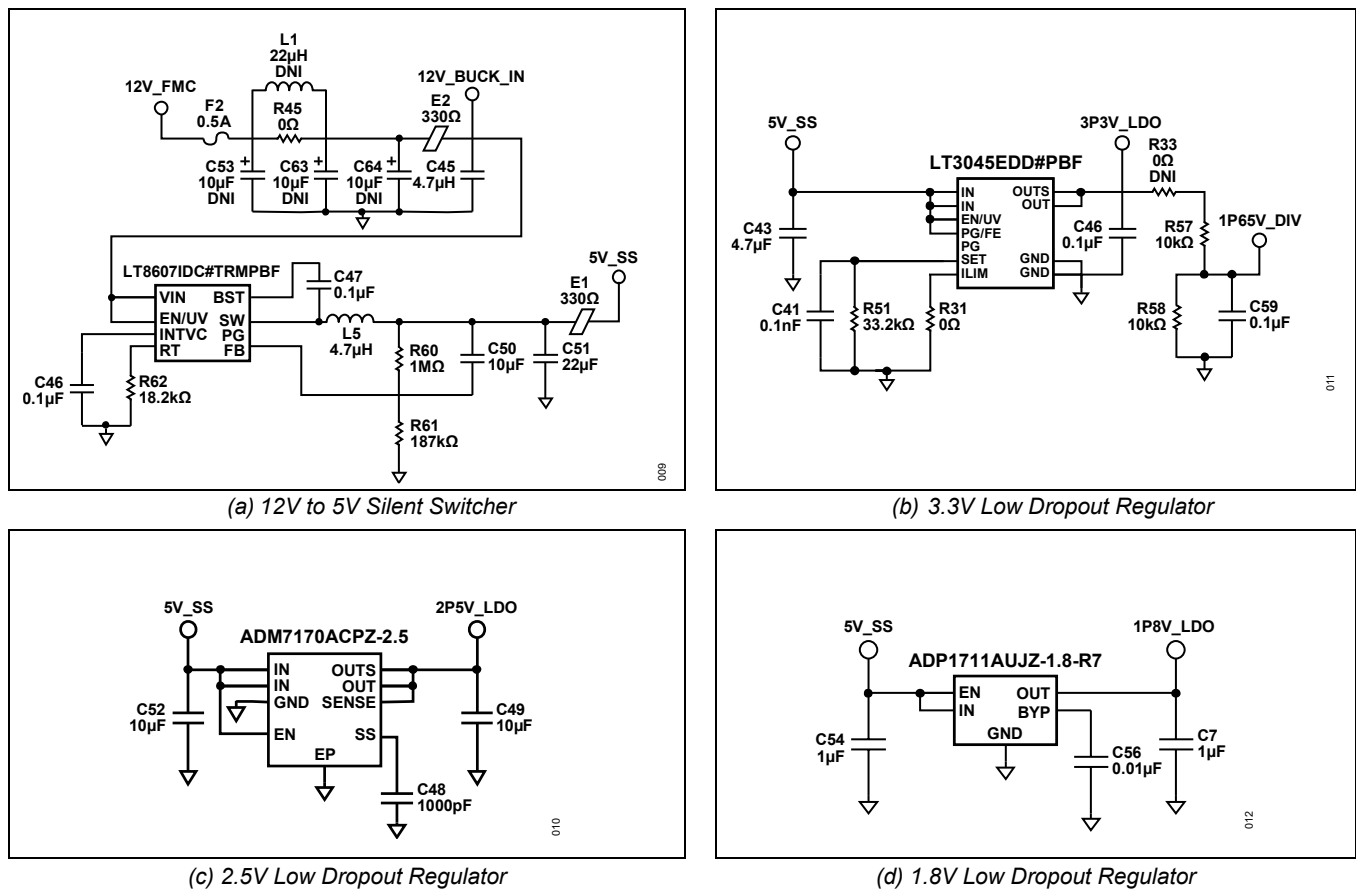

Figure 7. On-board Power Solution Circuits
The 12V supply is leveled down to 5V using LT8607, a synchronous step-down regulator with more than 93% efficiency at 0.5A, 12V_{IN} to 5V_{OUT}. At the LT8607's output, three LDOs are connected: (1) 3.3V, which powers the main DUT and majority of the circuit, (2) 2.5V, which is used on the APD bias circuit, and (3) 1.8V, which provides for the DUT's digital pins. Table 4 shows the LDOs used for each voltage level and Figure 7 shows the circuits.